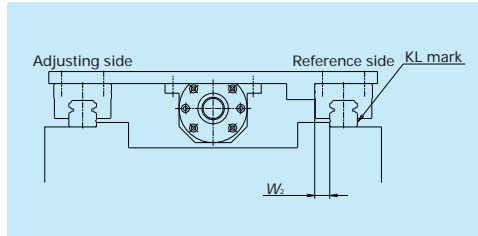
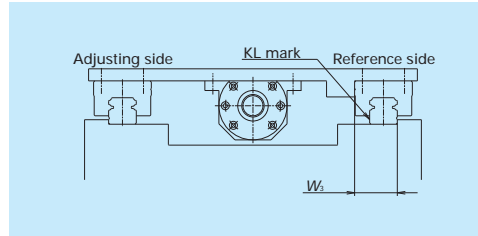

Fig. 4.3 Mounting width  $W_2$
Fig. 4.4 Mounting width  $W_3$
• Mounting width differs depending on the arrangement of the datum faces of the rail and slide on the reference linear guide (indicated as KL on the rail). (Fig. 4.3 and Fig. 4.4)